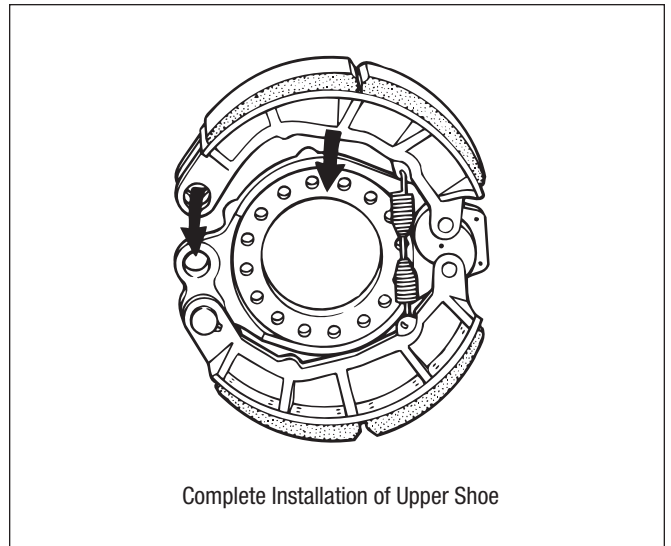

**Figure 79 – Lower Shoe Positioning**
7. Place the lower shoe in position on the spider, and install the lower anchor pin, washers, and retaining rings. Refer to *Figure 79*.